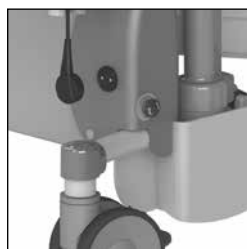

Figure 14 Charging point.
- The charging point is located on the front of the chair, on the blue cover on the underside of the device (See figure 14).
- Connect the charger to the Elexo XXL (See figure 14).